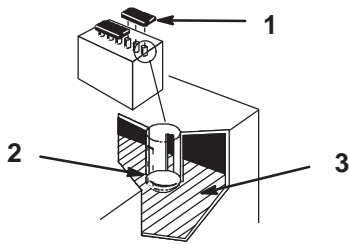

Figure 62
1. Open covers to see into the cells. The electrolyte must be up to the lower part of the tube (Fig. 62). Do not allow the electrolyte to get below the plates. (Fig. 62).
- Lift off the filler caps (Fig. 62).
- Slowly pour distilled water into each battery cell until the level is up to the lower part of the tube (Fig. 62).